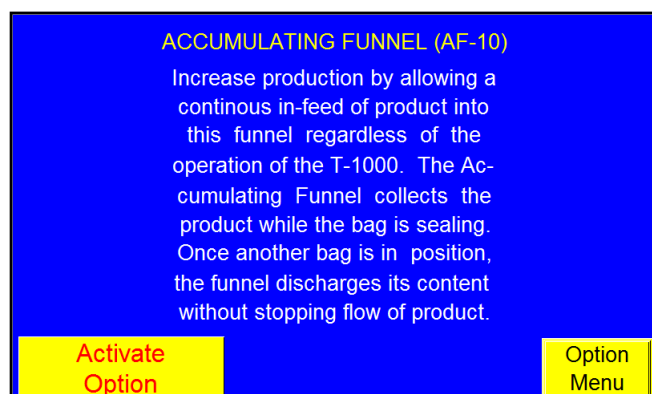

Figure 3-21
- 4) To physically open the bag with a gate that enters into the bag while the product exits the funnel. See Figure 3-21.